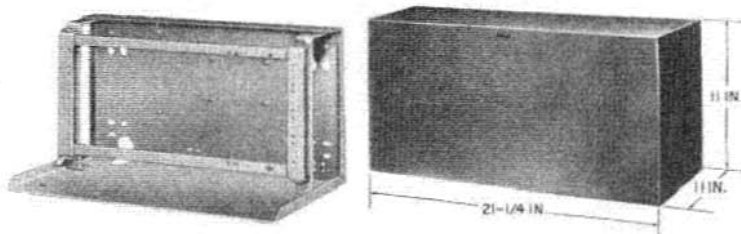

Fig. 15—4-Plate Cabinet per ED-91472-70 (MD)
**4.06** The 4-plate equipment cabinet (MD) per ED-91472-70\* (Fig. 15) is a metal cabinet with a hinged steel gate and removable metal cover. The cabinet is drilled for wall or floorstand mounting.